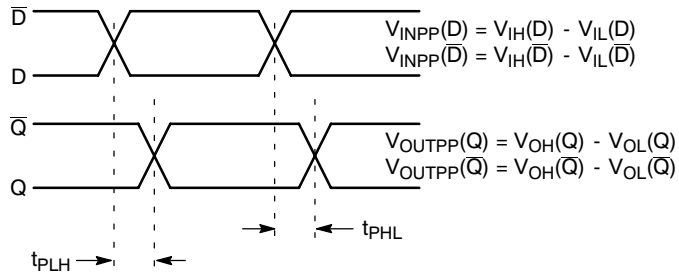

Figure 9. AC Reference Measurement
24. See Figure 9 $t_{skew} = |t_{PLH} - t_{PHL}|$ for a nominal 50% differential clock input waveform. Skew is measured between outputs under identical transitions and conditions @ 1 GHz.